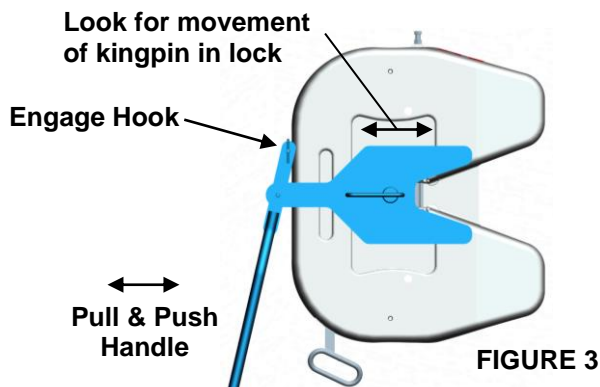

FIGURE 3
- b. **THE LOCK IS TOO LOOSE IF:** You feel fore-aft play when pulling and pushing on the lock tester handle (see figure 3)